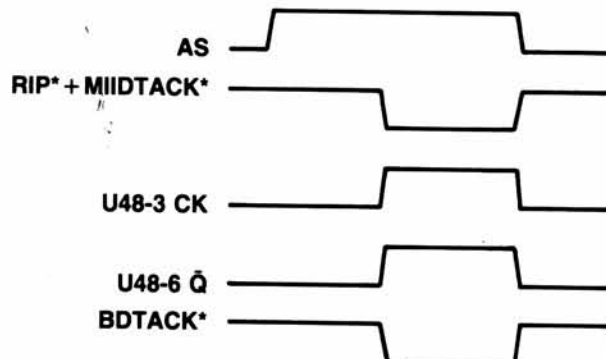

Figure 2. Onboard BDTACK Generation
Address Strobe (AS) sets the flip-flop and negates BDTACK* for the next bus cycle. Figure 2 shows the timing relationships for onboard BDTACK* generation.